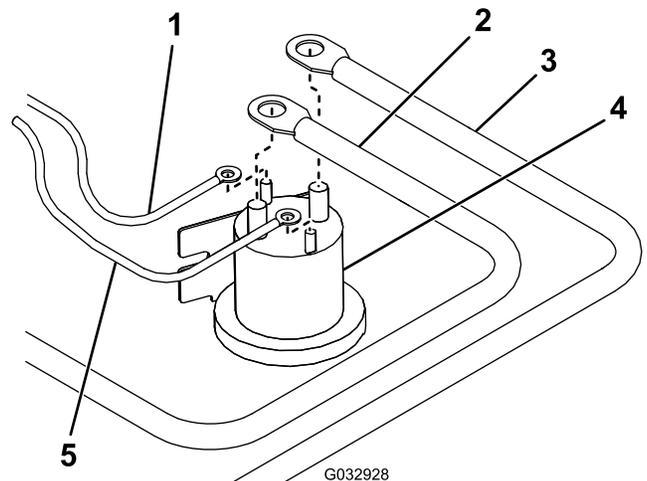

Figure 3
11. Connect the white/black wire from the wire harness to the small post on the pump solenoid (Figure 3).
12. Connect the brown wire from the wire harness with the small ring terminal (#10) to the other small post on the pump solenoid (Figure 3).
14. Connect the red power/ground cable to the large post on the pump solenoid (Figure 3).
15. Connect the battery cable to the other large post on the pump solenoid (Figure 3).